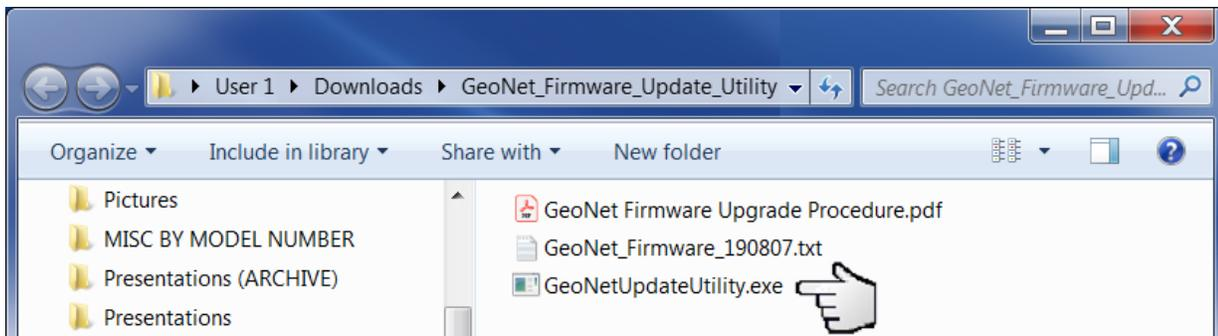

Figure 31 - Open the GeoNet Update Utility Application
12) Open “GeoNetUpdateUtility.exe” (Figure 31). If a security warning appears click “Run”.